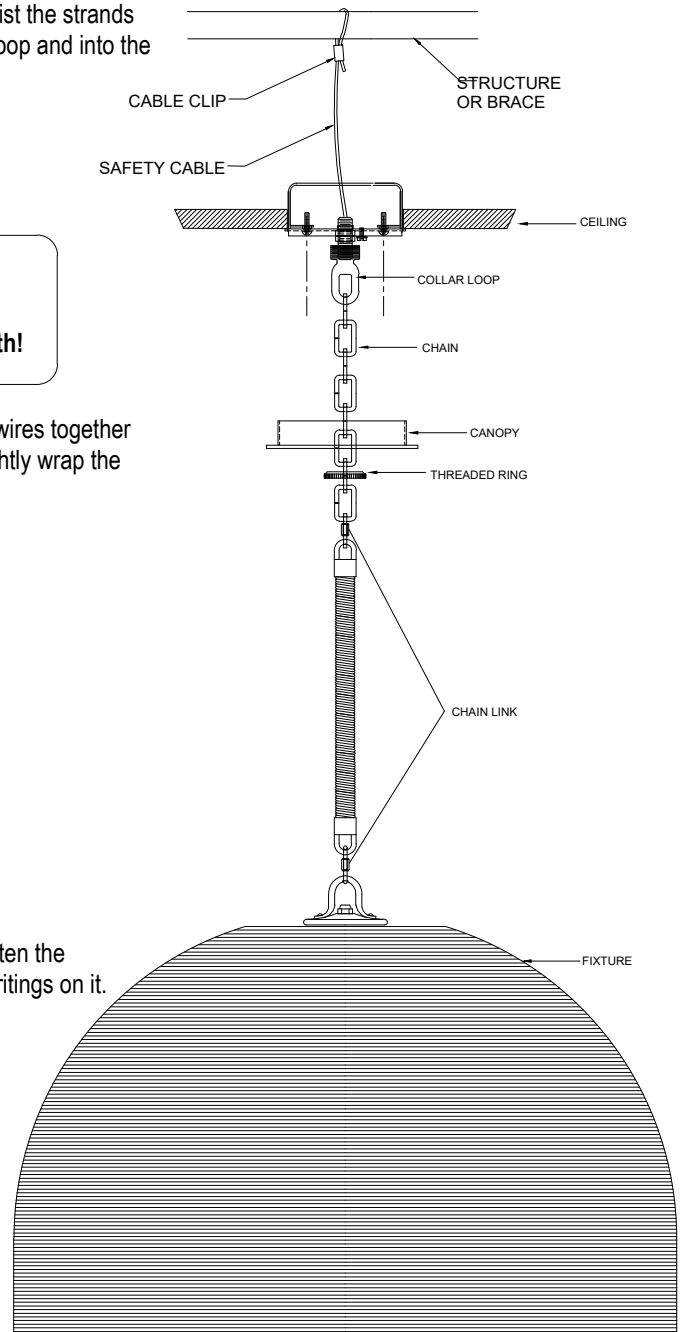

FIGURE-02
- Open the end links of the chain and attach the chain to the screw collar loop. Insert the lead wire to the stem then thread in the stem into the frame. Hang the fixture on the chain at the desired height. Remove the excess chain close all links. Unscrew the threaded ring from the screw collar loop. Allow the ring and canopy to slide down the chain to the top of the fixture. (See Figure-02)
- Attach the Safety cable to the building or structure or brace. (See Figure-02)